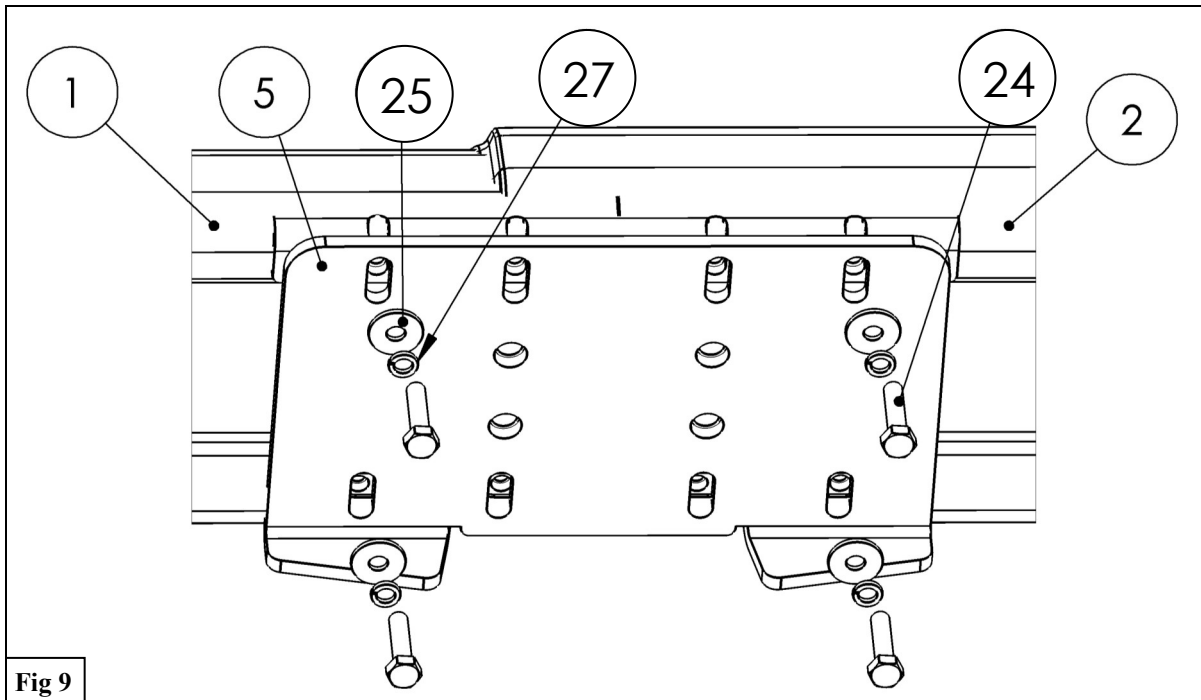

Fig 9
9. Obtain the Link Plate (5) and secure it to the Step Bar Assembly (1 & 2) using the supplied black M6 Hardware. See Figure 9.